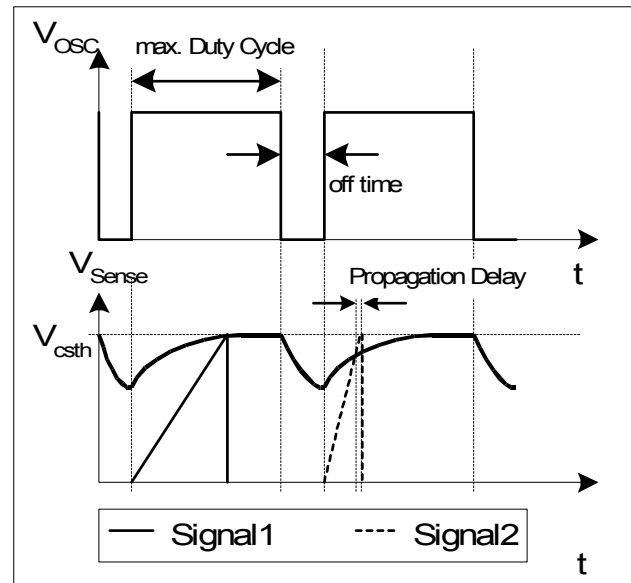

Figure 15 Dynamic Voltage Threshold  $V_{csth}$
E.g.  $I_{peak} = 0.5\text{A}$  with  $R_{Sense} = 2$ . Without propagation delay compensation the current sense threshold is set to a static voltage level  $V_{csth} = 1\text{V}$ . A current ramp of  $dI/dt = 0.4\text{A}/\mu\text{s}$ , that means  $dV_{Sense}/dt = 0.8\text{V}/\mu\text{s}$ , and a propagation delay time of i.e.  $t_{Propagation Delay} = 180\text{ns}$  leads then to an  $I_{peak}$  overshoot of 14.4%. By means of propagation delay compensation the overshoot is only about 2% (see Figure 15).
The propagation delay compensation is done by means of a dynamic threshold voltage  $V_{csth}$  (see Figure 15). In case of a steeper slope the switch off of the driver is earlier to compensate the delay.